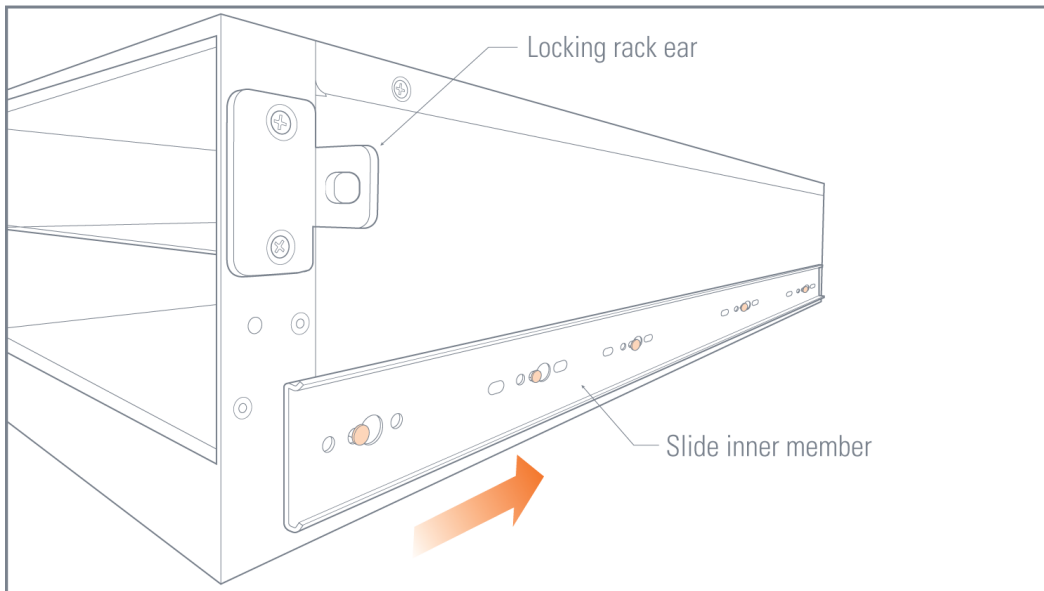

Figure 3: Slide Inner Member and Locking Rack Ear Installed on Chassis
6. Attach the left and right inner members of the mounting slide to the chassis and attached the locking rack ear to the chassis. Refer to Figure 3: Slide Inner Member and Locking Rack Ear Installed on Chassis.